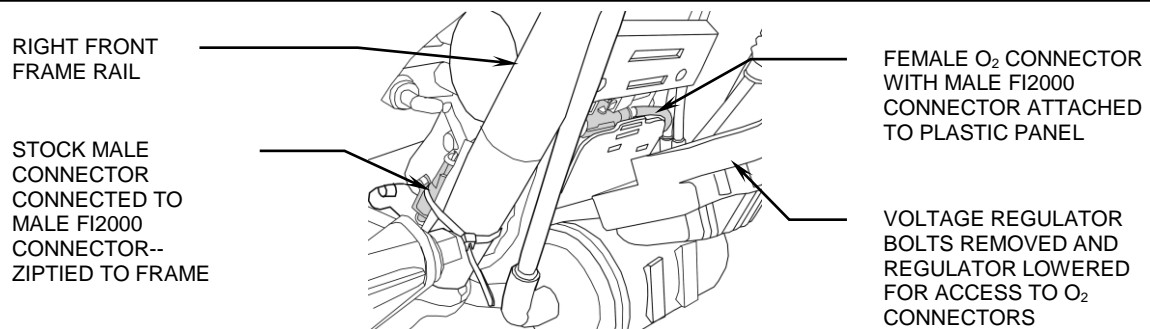

FIGURE 3
9. Remove the two Allen bolts holding the voltage regulator onto the lower front frame, see Figure 3. Let it drop down, then directly behind that is a black plastic panel. Hinge that panel down to access the plugs behind it. Locate the front oxygen sensor connection, slide it off its holding pin and unplug the connector. Plug the Fi2000 O₂ sensor harness male connector into the O₂ sensor female connector and slide them back onto stock plastic panel location. Mate the stock male harness connector with the female Fi2000 connector, double up any slack and secure with zip ties to rightside framerail. Reinstall the panel and the voltage regulator.